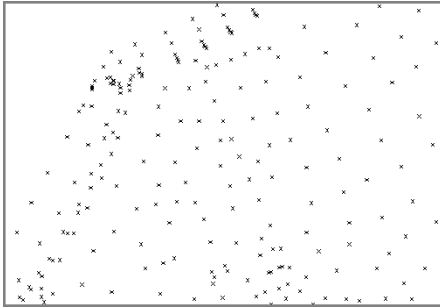

FIGURE 3.3 So far, importing data shows only a bunch of relatively meaningless *x* markers in the drawing.
12. Zoom in to the drawing, and examine what you see (see Figure 3.3).
As you might guess, the process of making a drawing out of point data is quite tedious and presents an opportunity for automation. Imagine using the result from the steps in the previous section (see Figure 3.3) to create a map of the land. With no information accompanying the points, it would be nearly impossible. In the following sections, you’ll see how to use several Civil 3D features to automate this process, resulting in a drawing that is 80 to 90 percent complete immediately after you import the raw field data. However, as is usually the case, the more automation you want, the more setup you’re required to perform. Automation is another way of saying that you’re going to make a bunch of decisions ahead of time and ask the computer to carry out those decisions when needed.